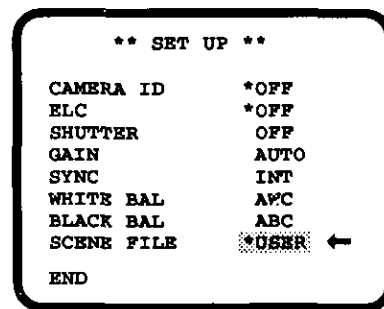

Fig.44.
- Display the SETUP MENU as shown in Fig.44.